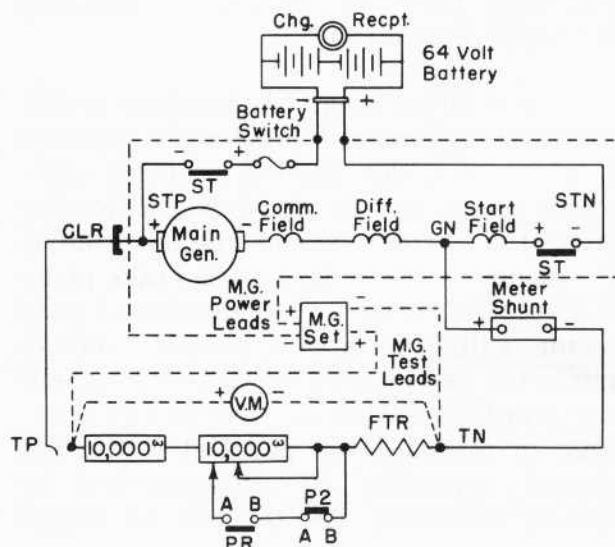

Fig. 2 - Test Equipment Circuit Connections
A. Connections In Electrical Control Cabinet (Fig. 2)